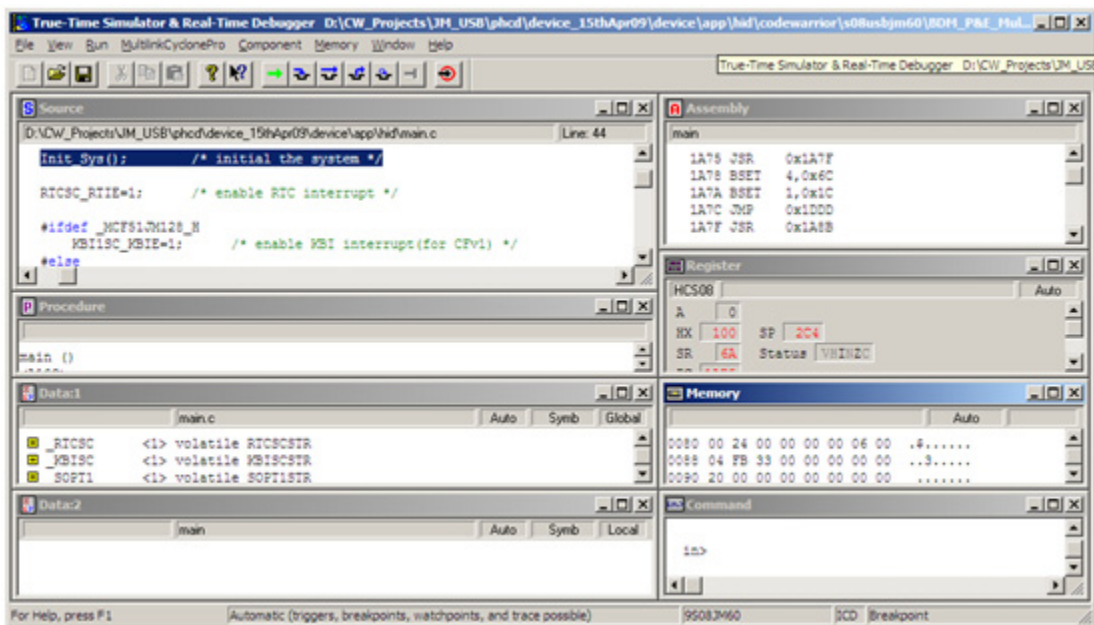

Figure A-14. Simulator and Real-Time Debugger
5. After the image is programmed in the flash, the debugger window as shown in Figure A-14 appears. Click on the Green Arrow as shown in Figure A-14 to run the programmed image.